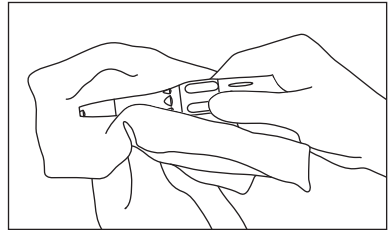

Fig. 15
5) Wipe the exterior of the handpiece and the irrigation nozzle clean using a cloth moistened with disinfectant or ethanol with a concentration of 60 - 90%. (Fig. 15, 16)